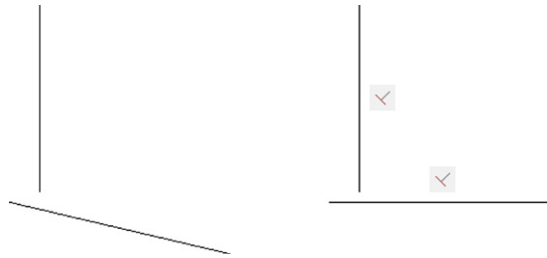

FIGURE 13.12
Step 1. Draw two lines that are roughly perpendicular, as seen in Figure 13.12 (left).
Immediately after the selection of the second line, you see it snap to perpendicular and two sets of geometrical constraints are added next to each line, as seen in Figure 13.12 (right).